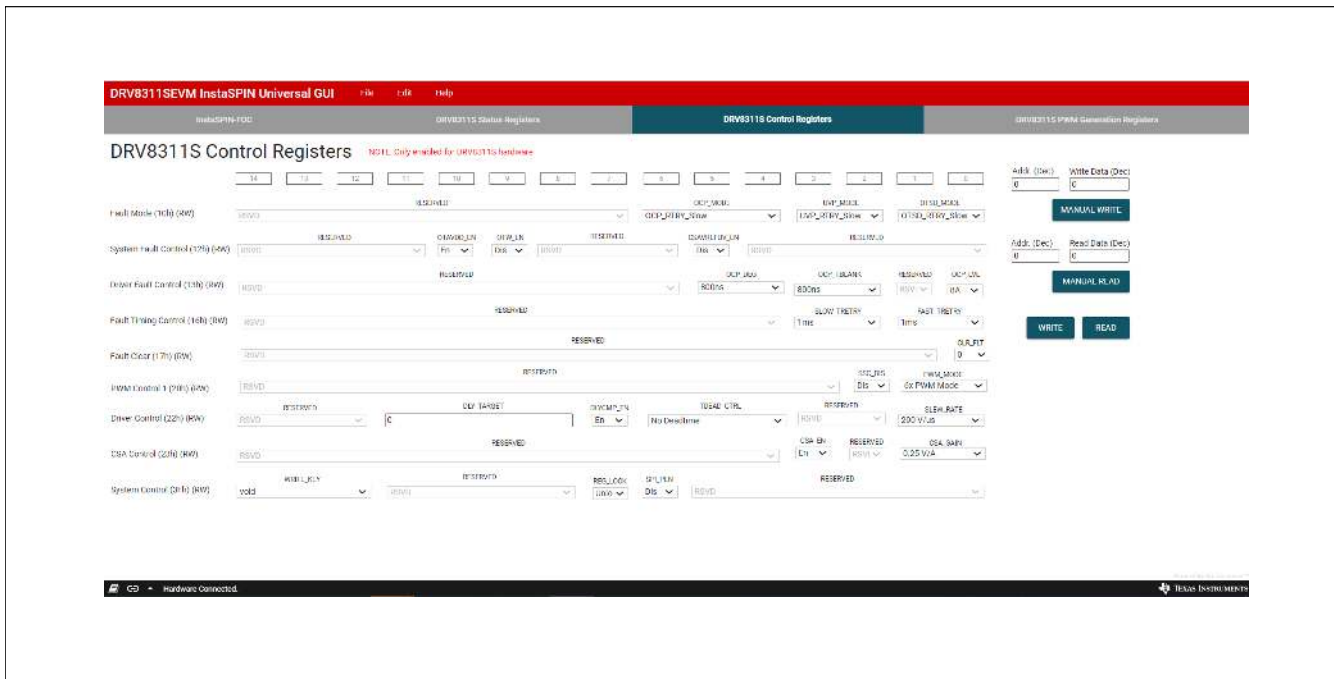

Figure 6-6. DRV8311HEVM InstaSPIN GUI SPI Control Registers
1. Click on the “DRV8311S Control Registers” tab to access the DRV8311S Control Registers as shown in Figure 6-6.